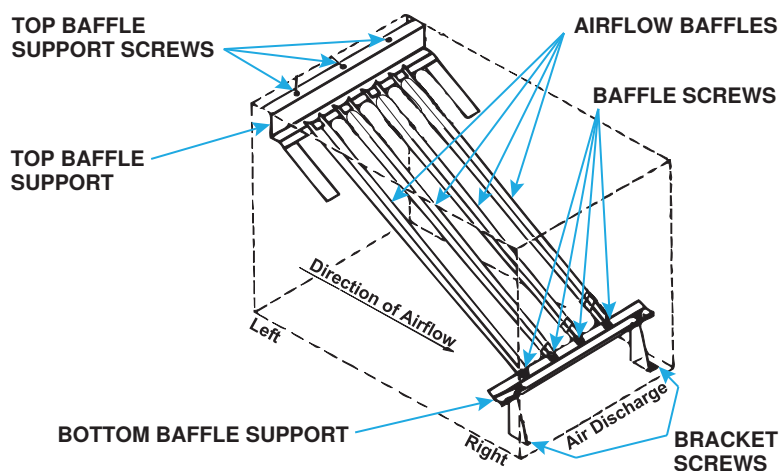

Figure 27. Airflow Baffles
- b. For standard (not high CFM) furnaces, remove baffle screws (see Figure 27) and lift each airflow baffle slightly and slide forward. Remove all baffles from heat exchanger.